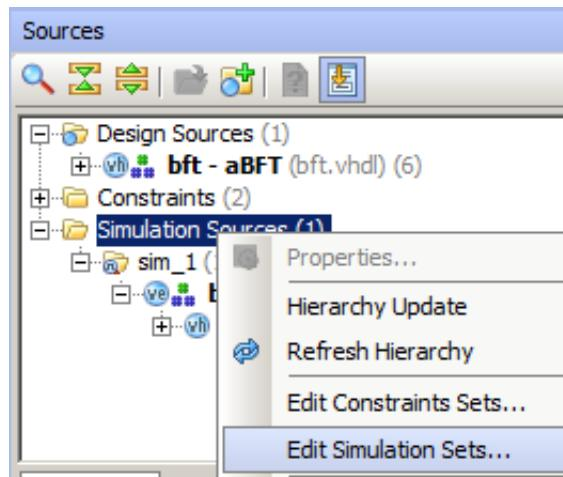

Figure 7-7: Edit Simulation Sets Option
1. In the Sources window popup menu, select **Simulation Sources > Edit Simulation Sets**, as shown in Figure 7-7, page 117.